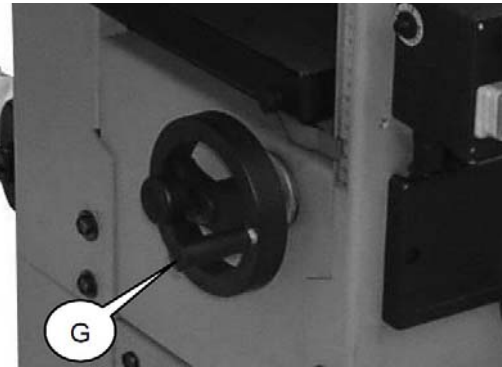

Fig. 17: Handwheel thickening table
Step 1: Crank the thickening table to the lowest position by turning the hand wheel (G, Fig.17).